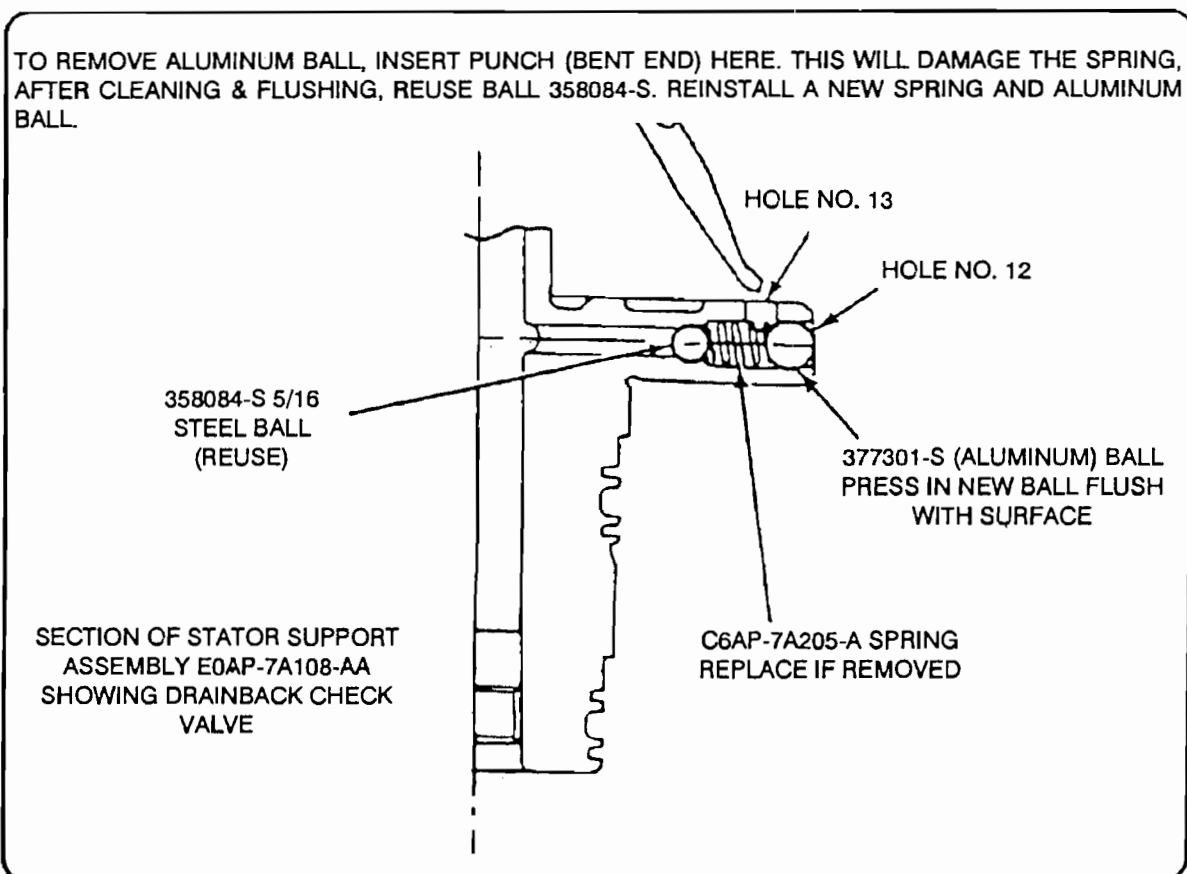

Figure 3
**CAUSE:** The cause may be the converter drain back cross hole passage in the pump stator support blocked with debris, or the checkball stuck (See Figure 3 ).